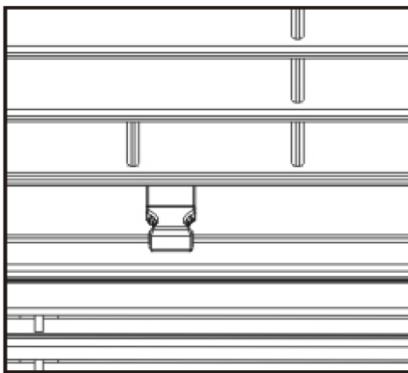

Fig 1 (VENT CLOSED)
1. Recirculate inside air - Vent Closed (See Fig.1)